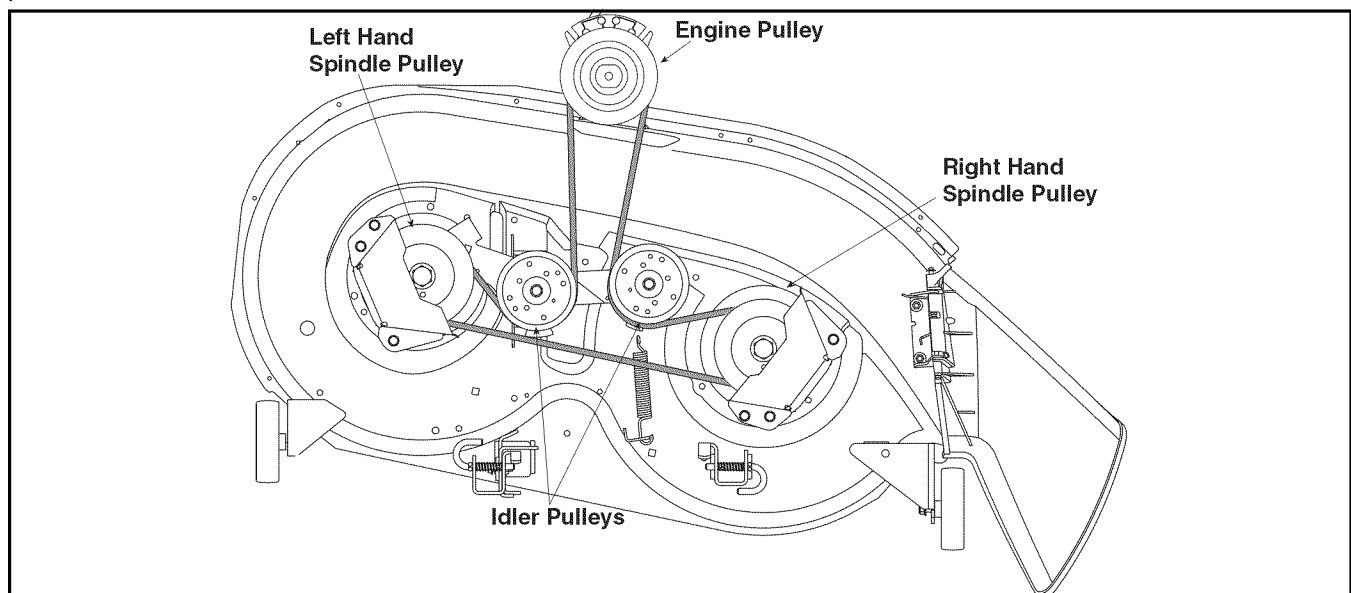

Figure 20
- Route the new belt as shown in Figure 20.